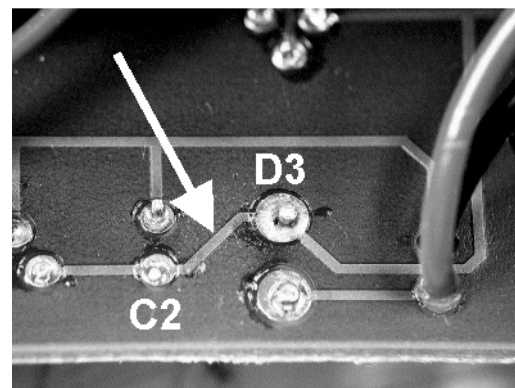

Figure 2
- 8) Locate the PC board trace which connects the ungrounded side of C2 to the cathode (banded) end of D3 (see Figure 2 on the following page).